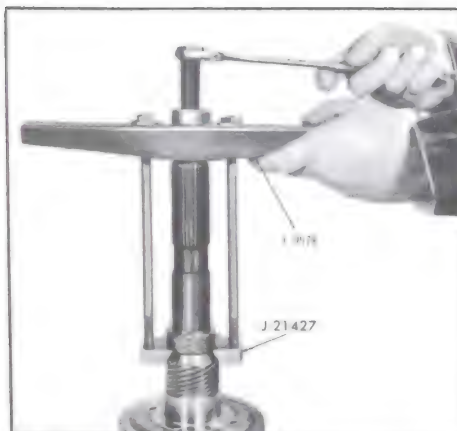

Figure 5-563 -
a. Install Speedo Gear Removing Tool, J-21427 and J-9578, on output shaft and remove drive speedo gear. See Figure 5-563.